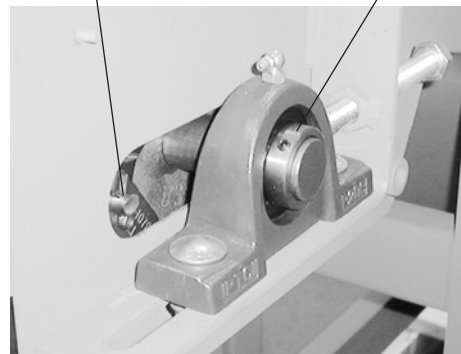

Figure 13. Pin Removal
1. Carefully jog the conveyor until a drag chain pin is accessible through the take-up slots (Figure 13).
7. Remove the cotter pin from both sides of the drag chain axle (Figure 13), and remove the chain pins, rollers, side wings and side bars to disconnect the drag chain assembly.
10. Loosen the setscrews securing the bearings to the headshaft (Figure 13).
8. At the take-up slots (Figure 13), remove the cotter pins from both sides of the drag chain assembly (axle), then remove the chain pins and rollers to disconnect the drag chain assembly.